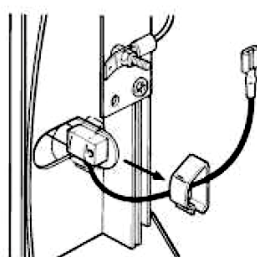

Fig. 3
5. Disconnect lamp leads from terminal plates and remove the retaining clips (see Fig. 3).